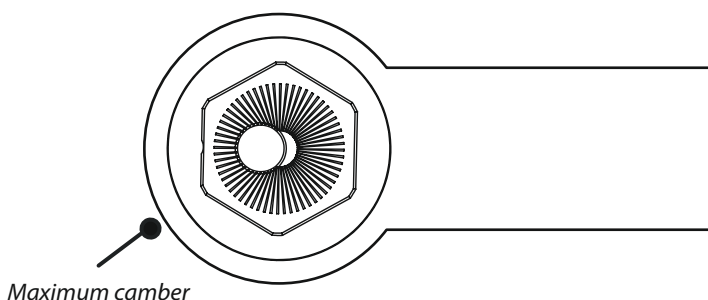

Figure 2
7. Using the included adjustable spanner rotate the sleeve to the desired amount of camber. Maximum camber is shown in figure 2.